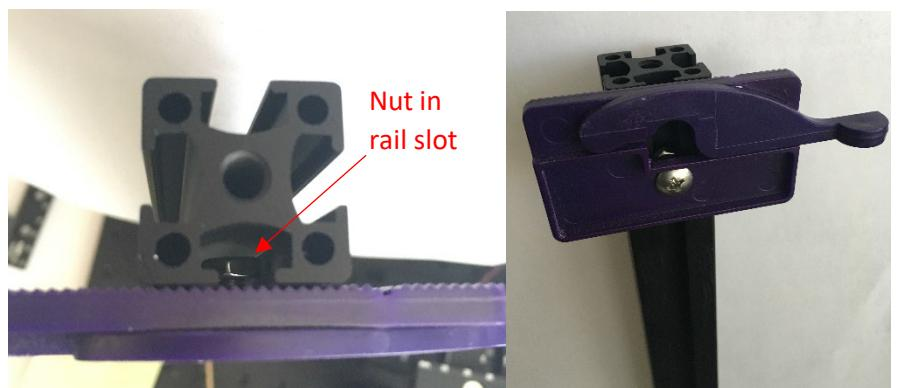

Figure 75 Water reservoir mount attached to construction rail
- See Figure 75 for the results of this step.